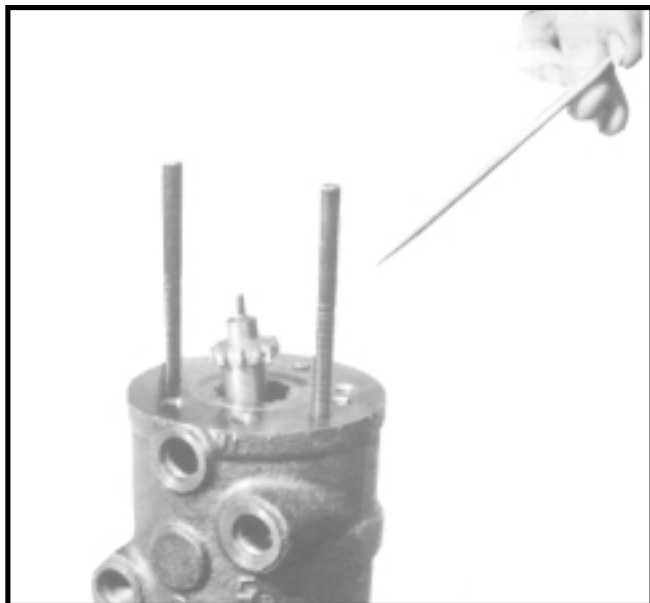

Figure HGA-22
17. With the drive link (30) installed as described above, assemble two assembly posts into the housing (25) as shown in Figure HGA-22. These assembly posts can be made by simply cutting the heads off of two bolts similar to the special bolts (39).